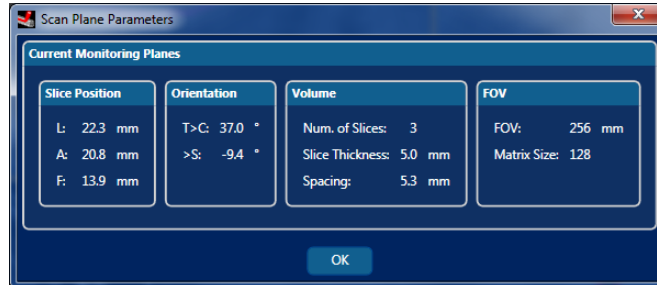

Figure 8.8.2: Scan Plane Parameters for Siemens or IMRIS MRI
- Enter the displayed scan plane parameters from Fusion-S (see Fig 8.8.2.2) into the NeuroBlate Thermal Monitoring Sequences protocol’s geometry parameters in the MRI. This will be in the Offc/Ang tab of the sequence exam card as shown below. The Base plane or slice orientation is modified in the geometry tab as noted.